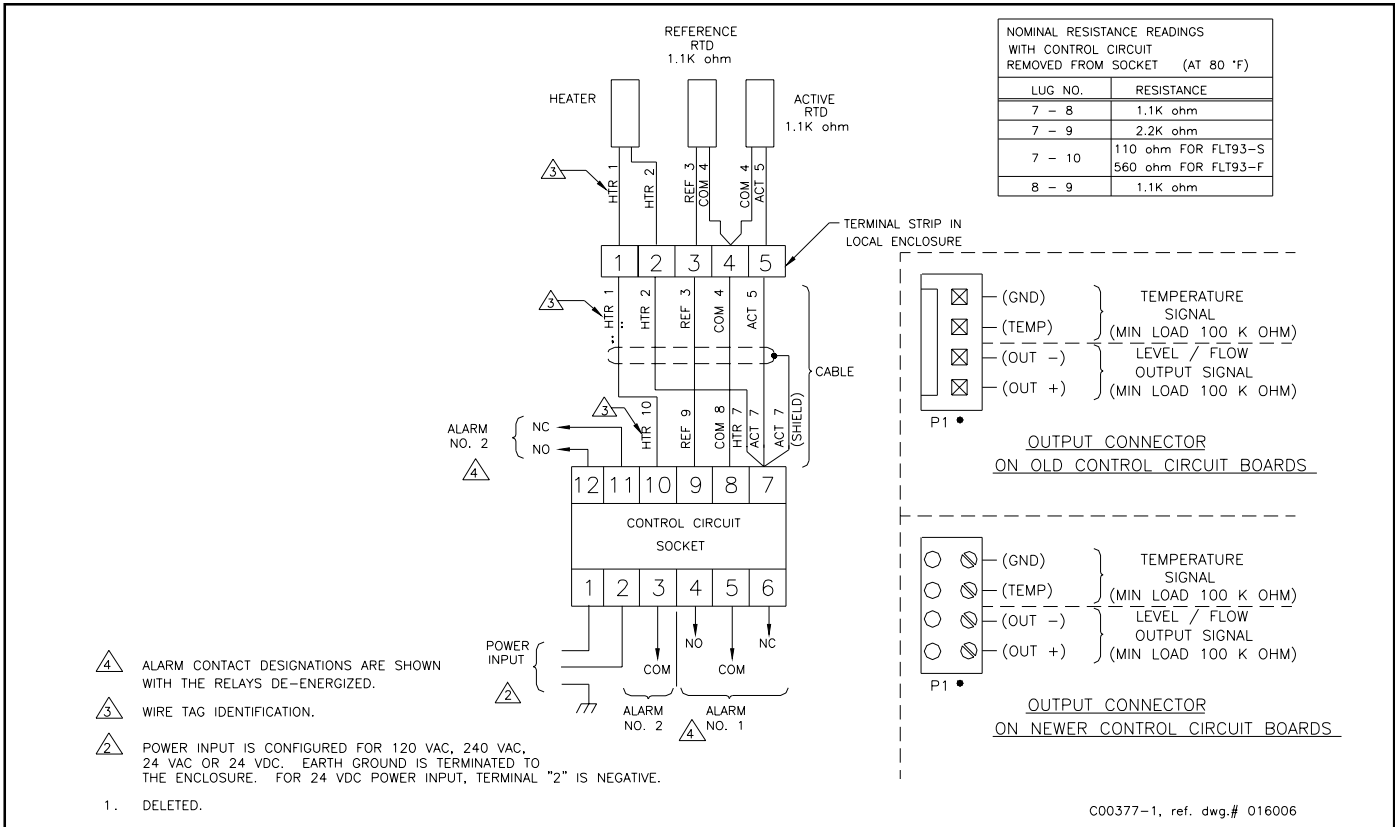

Figure 2-6. Remote Wiring Diagram
3. Wire between the local and remote enclosures according to Figure 2-6.
4. When connecting the relay wiring, do so with complete understanding of what the process requires of the instrument. The instrument has dual SPDT or single DPDT relay output contacts dependent on the jumper configuration for each alarm switch point. For the relay logic, refer to Figure 2-6. Also refer to Table 3-5 and Table 3-6 in Chapter 3 - Operation. Relay contacts are shown with the relays de-energized. Wire in accordance with the system requirements.